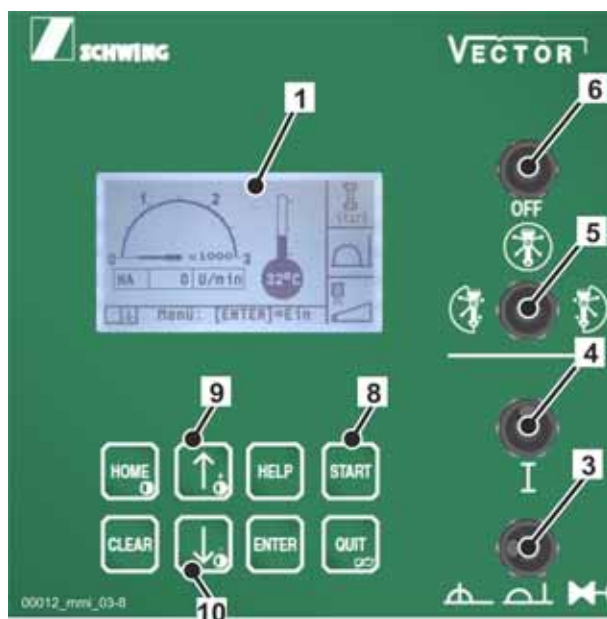

Fig. 463
1. If selector switch (5) (**Fig. 463**) is actuated while an outrigger is engaged on one side, the display will show the following message: